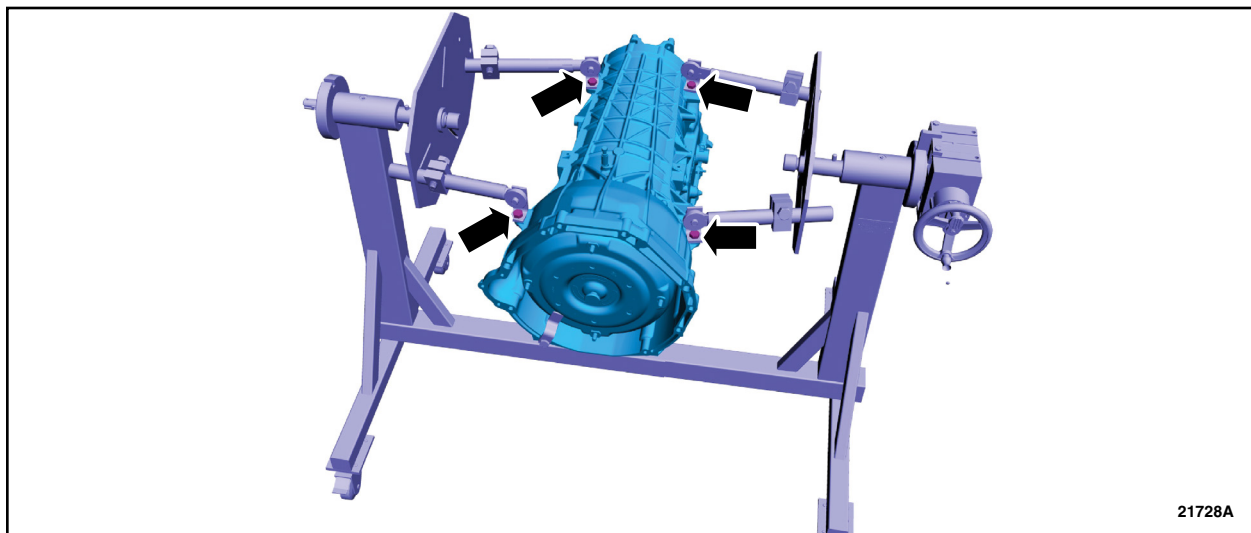

FIGURE 1
2. Mount the transmission to a mounting stand. See Figure 1.